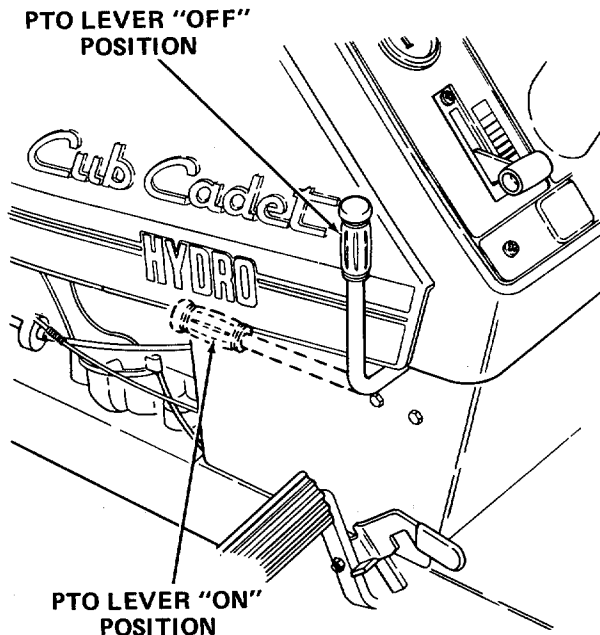

Figure 35
- Place the PTO engagement lever in the "ON" position. (Refer to Figure 35.)
- Place the PTO engagement lever in the "OFF" position. (Refer to Figure 35.)